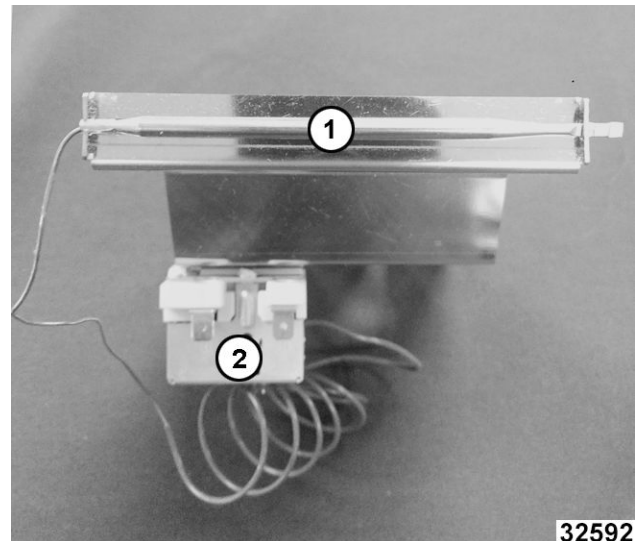

Fig. 34
6. Disengage the capillary bulb (1, Fig. 34).
7. Install high limit switch (2, Fig. 34) to bracket.